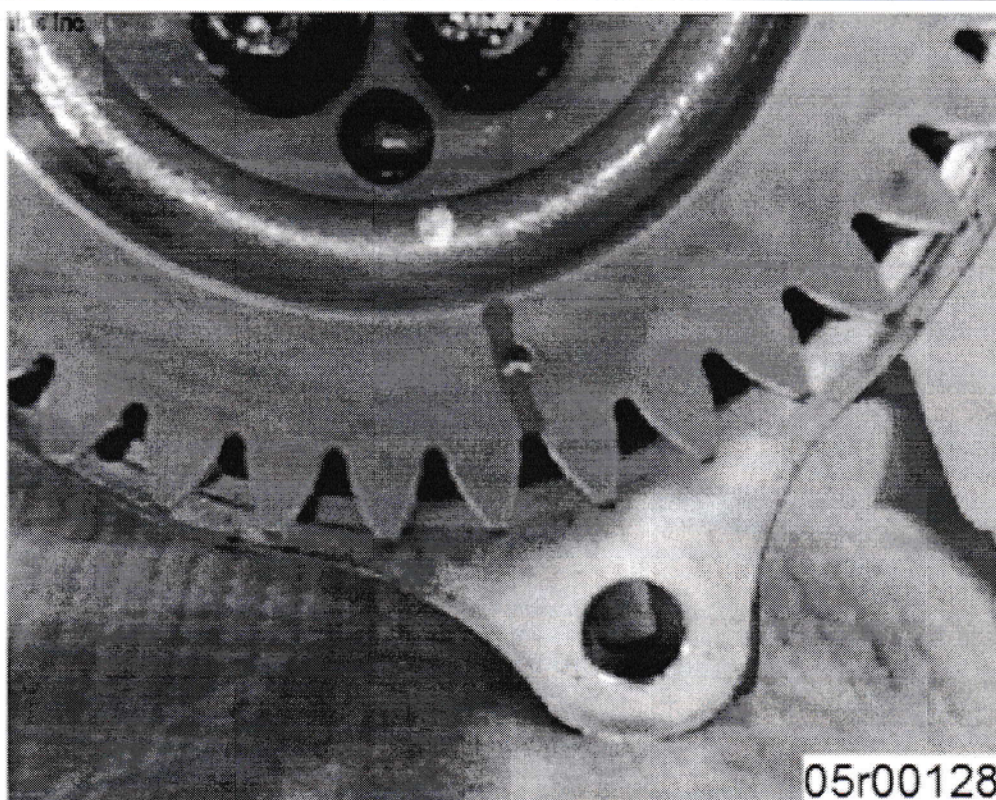

Figure 2, Line over Fuel Pump Gear Timing Mark to Outer Edge of Fuel Pump Gear.
- Using a paint marker, draw a line over fuel pump gear timing mark to outer edge of fuel pump gear. See Figure 2 below.